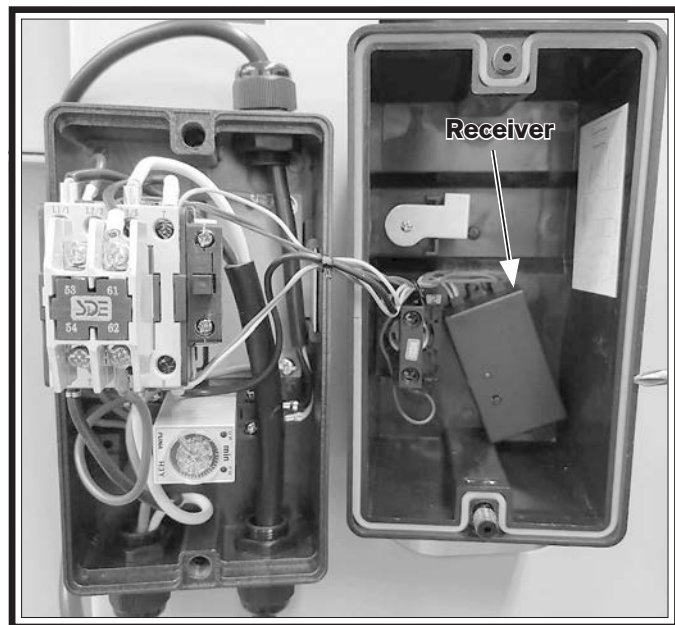

Figure 77. Location of receiver in switch box.
1. Remove switch cover to get a clear view of remote receiver (see **Figure 77**).